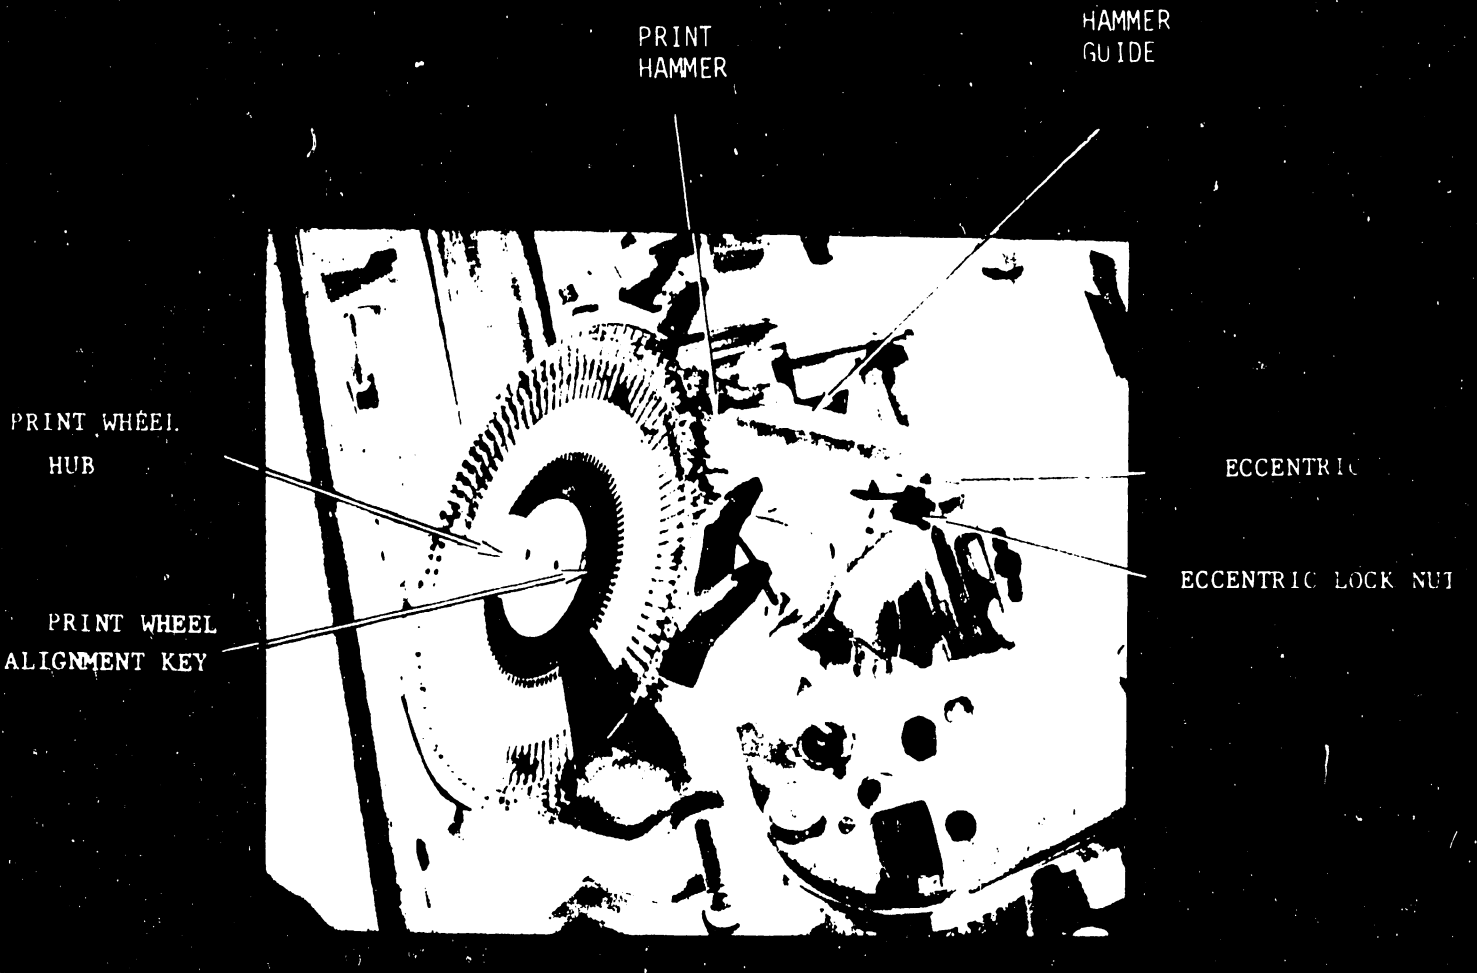

FIGURE 4-8 PRINT WHEEL REPLACEMENT
3. Grasp the rubber hub and pull away the print wheel. The print wheel has a friction fit on the shaft of the print wheel drive. (See Figure 4-8.)